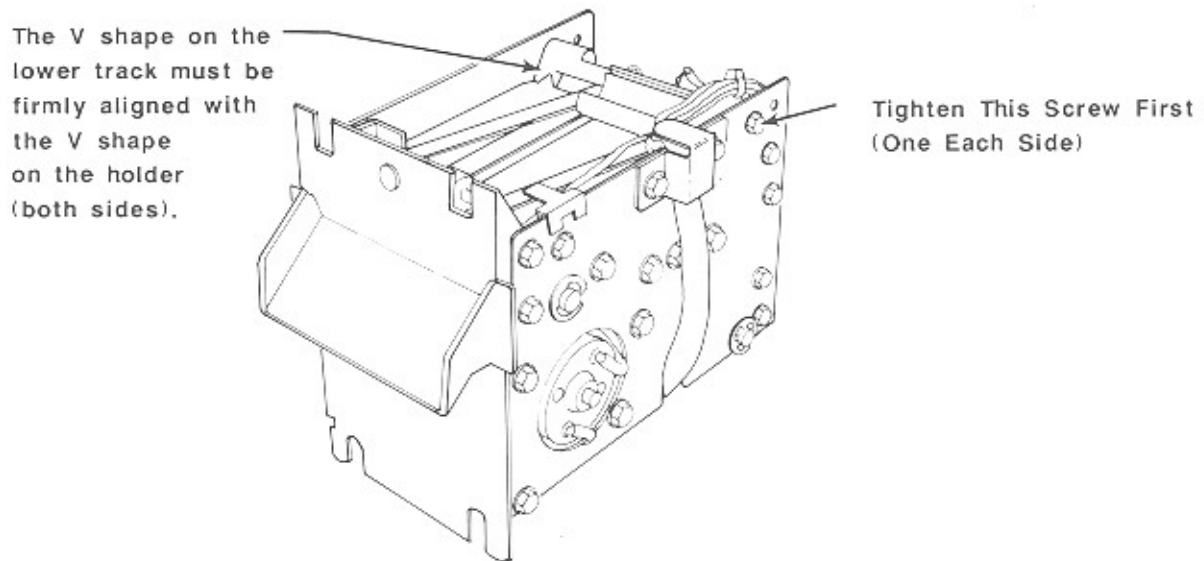

Figure 4-10. Magnetic Head Alignment
1. Install the four screws loosely, and align the assembly with the lower track by pressing the V on the holder firmly against the V on the lower track (*figure 4-10*).